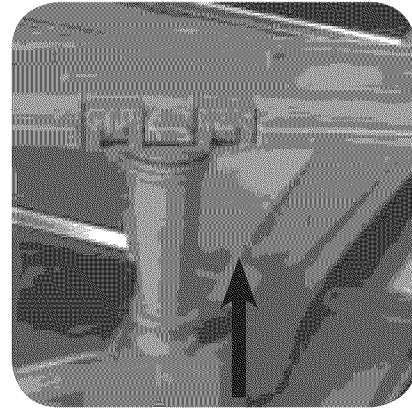

FIGURE 33
2. Grasp and lift the bottom spray arm as shown in Figure 33.